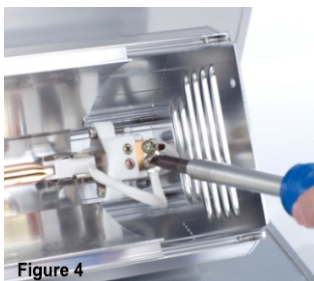

Figure 4
Step 4: Loosen screw from each side to remove wire leads from terminals. See figures 4 & 5.